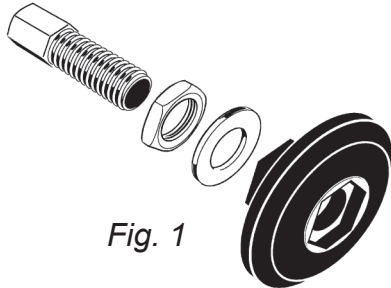
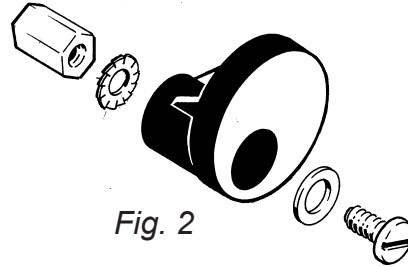

Fig. 1
Fig. 2
1. The chainring must not be too far out. Part of the stay, B (fig. 1), acts as a buffer against the chain wheel during folding, and steadies the folded front wheel. The gap G (fig. 2) between inside of chain and hinge plate RHPL when the bike is parked, should be 0 - 3mm, if this gap is too large then the hook will be a tight fit over the chainstay CHS, and may stick when trying to unfold the front wheel.
The LSD assembly currently used is a MK3 (fig. 1), this can be used to replace the LSD on bikes equipped with the MK2 (fig 2). Ensure that you retain a spring washer, a plain washer and a concave washer in the stack under the "RBNUT". With the assembly secured in place, you will always need to set the correct gap.
Move the gear trigger/s to top gear and back/forward pedal a little to engage, then fold the rear frame under and park the bike. On a bike with a SRAM 3 speed hub, press the spring clip C on the adjuster A to disconnect the adjuster from the gear chain (fig. 1). On a bike with a Sturmey Archer hub, slacken off the knurled locknut N and unscrew the barrel B (fig. 2).